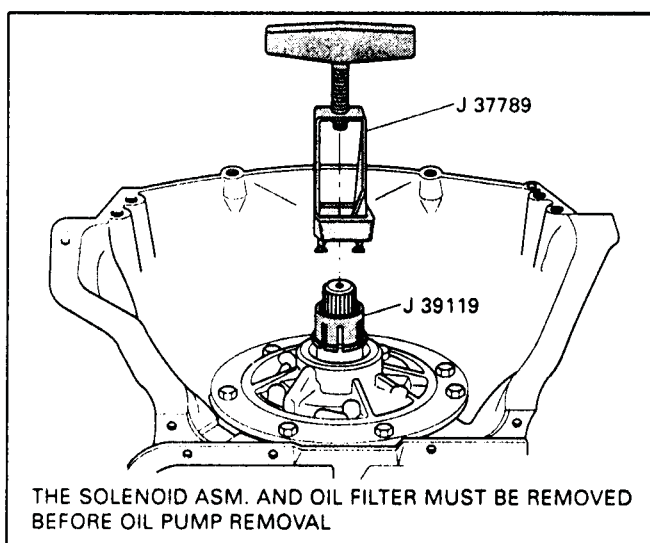

Figure 49
46. Install oil pump remover and adapter as shown in Figure 49.
48. Remove oil pump assembly using the J-37789 remover (Figure 49).